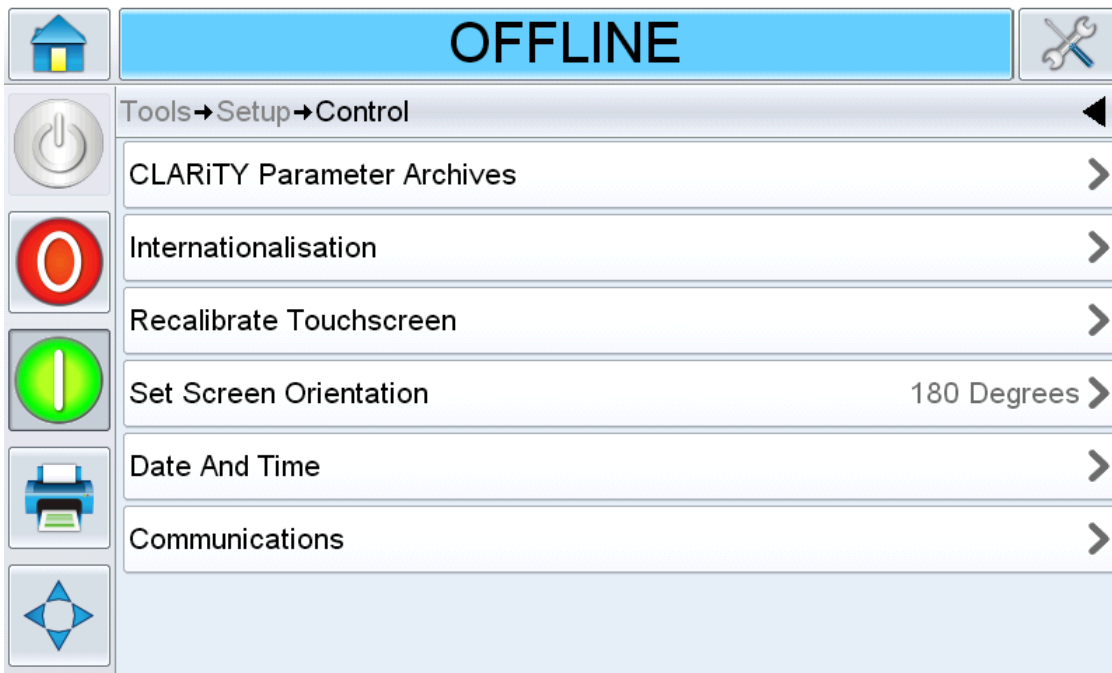

Figure 4-3: Screen Orientation
1. Navigate to *Tools > Setup > Control* as shown in Figure 4-3.